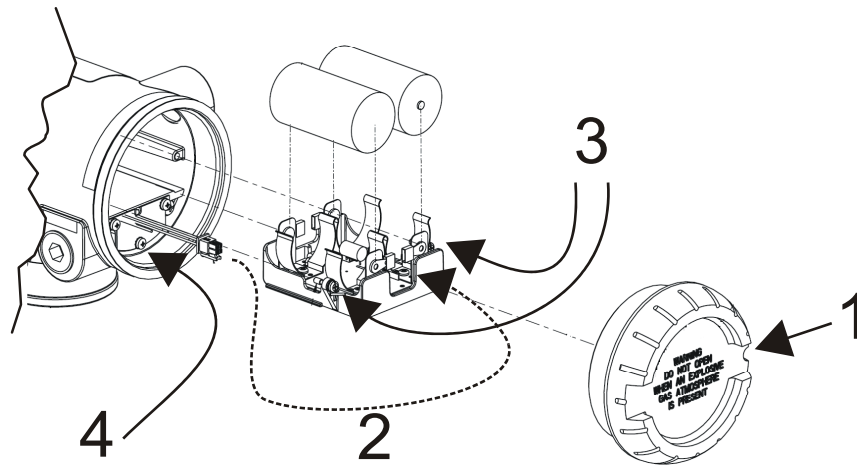

Figure 12 Terminal board replacement
2	Loosen the M3 locking set screw on the battery end-cap (opposite end from display). See item 1 in Figure 12. Unscrew and remove the end cap.
3	Using thumb and forefinger, squeeze the battery connector at top and bottom to disengage the locking mechanism, then pull to disconnect. See item 2 in Figure 12.
4	Loosen the two battery holder retaining screws (closest to the batteries). See item 3 in Figure 12. The screws are captive.
| 7    | Remove and save the 3 screws that attach the terminal board to the housing. Take care because these screws are not captive. See item 4 in Figure 12.   |